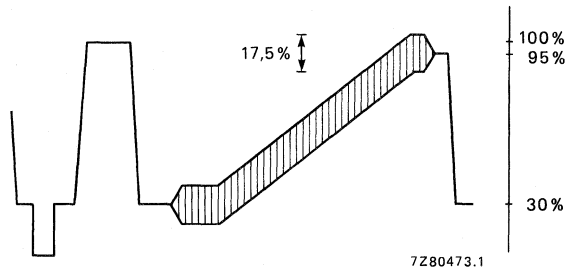

Fig. 3 Video output signal.
- Signal with negative going sync. top white 10% of the top sync. amplitude (Fig. 3).